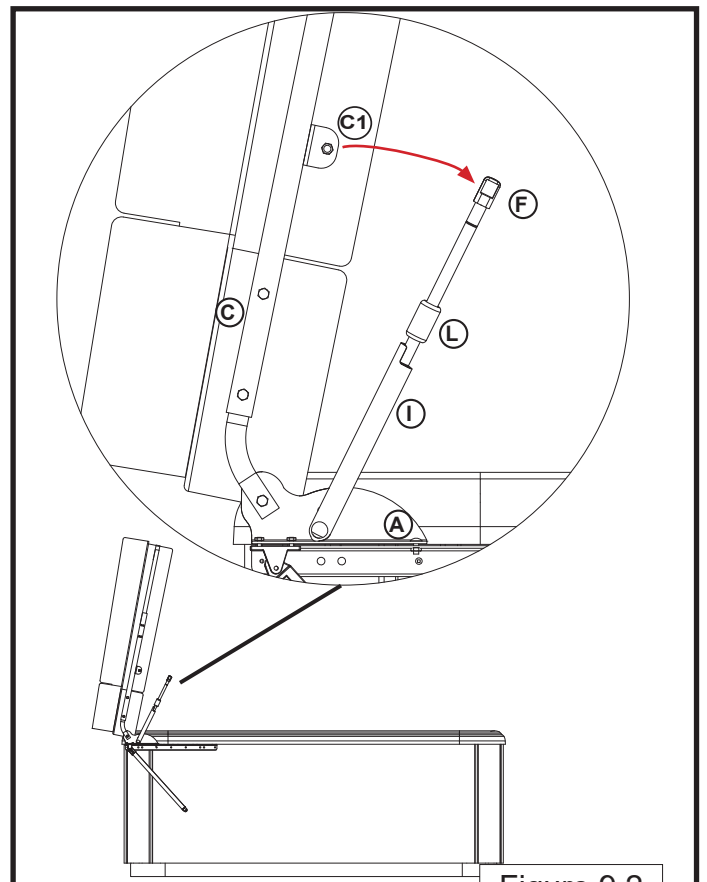

Figure 9.2
- 1b. While the cover is in full open position, use a small flat head screwdriver to slightly pry on the back of the gas spring end to release the gas spring from the Assy. Channel Ball Stud Bracket (C1) (Figure 9.2).
- 2b. Swing the gas spring (F) out of the way (Figure 9.2).